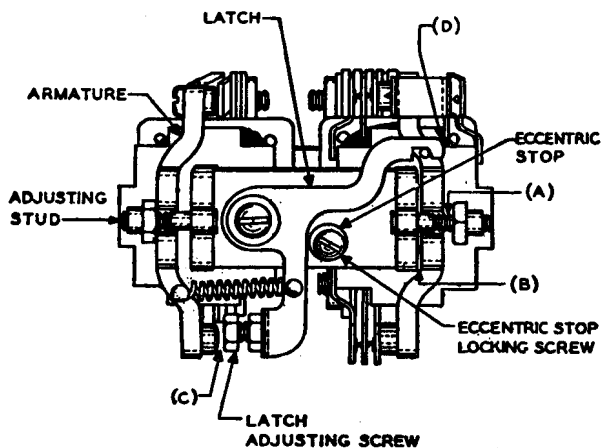

Fig. 101 — M-type Relay
**1.02 Adjusting Stud Clearance:** Fig. 101(A)—Armature shall clear stud.
**1.05 Operated Armature Airgap:** Fig. 101(B)—Max 0.005 inch with armature locked operated.
**1.07 Latch and Contact Spring Clearance:** Fig. 101(D) — 0.005 inch between top of latch and nearest contact spring with latch pressing against eccentric stop.